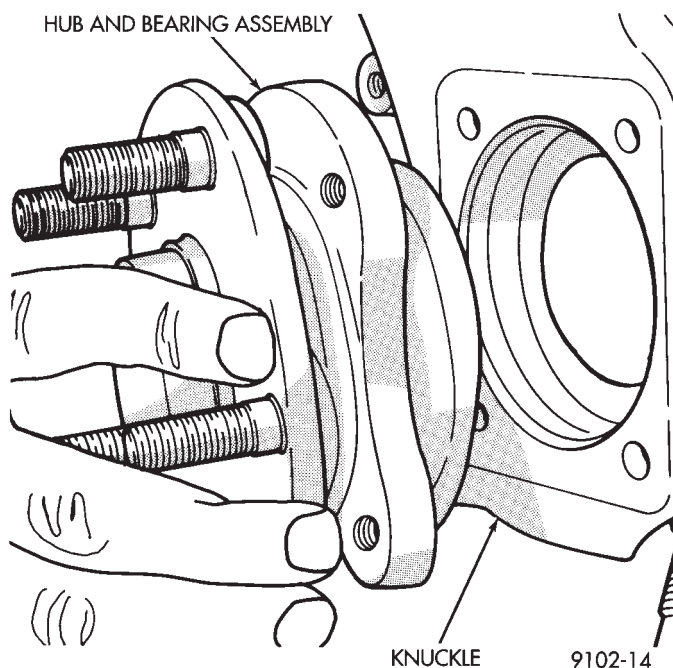

Fig. 10 Remove Or Install Hub and Bearing Assembly
(11) Mount the steering knuckle in a vise and remove the 4 bolts on back of steering knuckle, attaching the hub and bearing assembly. Remove the hub and bearing assembly from the steering knuckle (Fig. 10).
(1) Install the hub and bearing assembly into the steering knuckle (Fig. 10). Install the 4 hub and bearing assembly to steering knuckle attaching bolts and torque in a criss-cross pattern to 65 N•m (45 ft.lbs.)